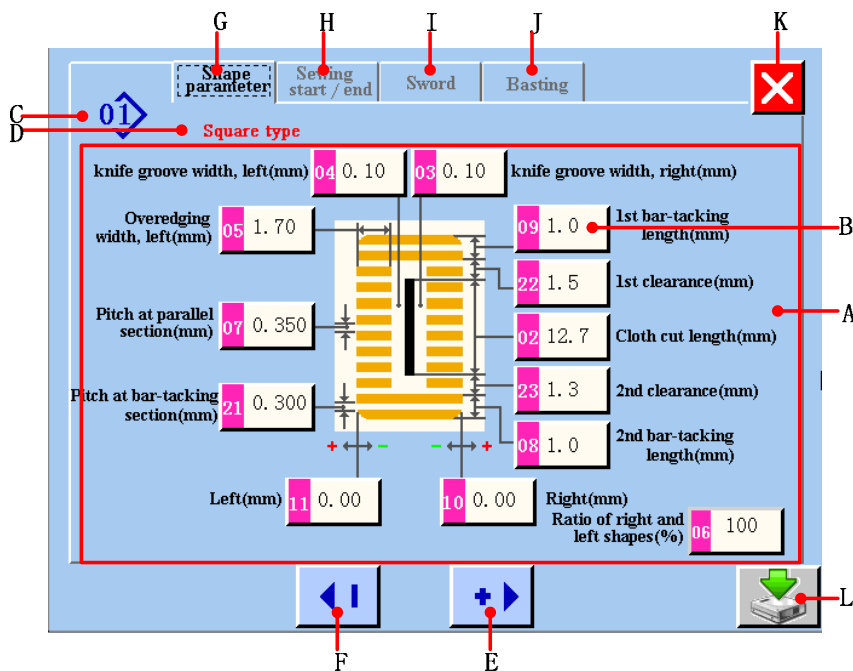

figure 4.3
Then the system enters <shape parameter> screen. it is displayed as figure 4.3 shown.
- G Set shape parameter button . Press this button , it can enter <shape parameter> screen (refer to figure 4.3)
- G Set shape parameter button . Press this button , it can enter <shape parameter>screen(refer to figure4.3)